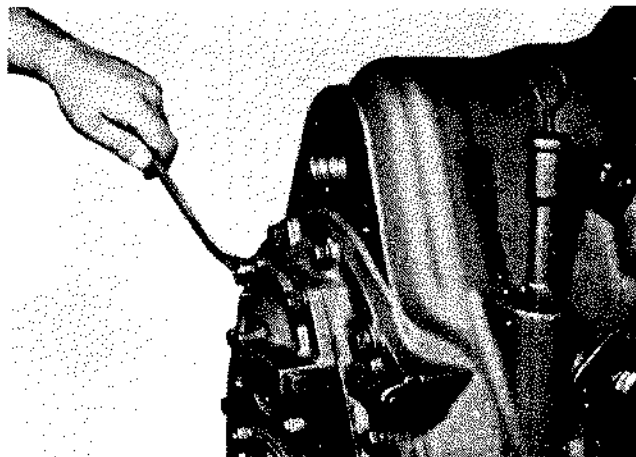

Figure 43
**NOTE:** P.T.O. is optional, if not used proceed to Figure 43. Using an impact wrench (if available), if not a flange retainer bar must be used to hold the companion flange from turning, loosen P.T.O. flange nut.